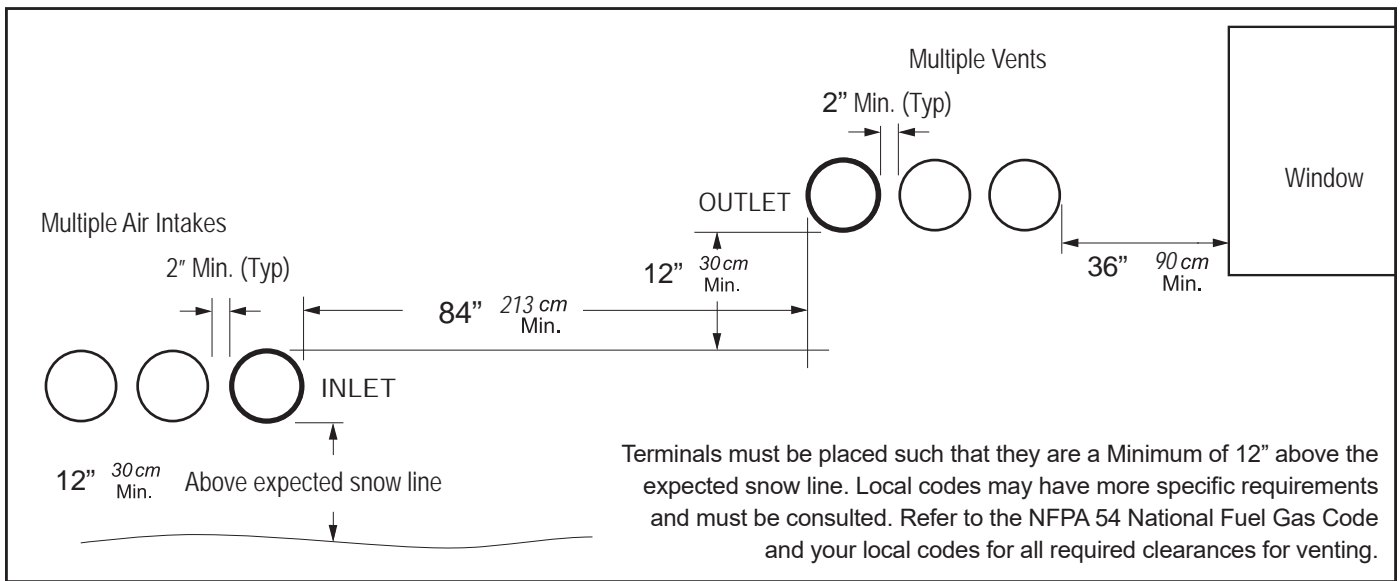

Figure 6. Sidewall Vent and Air Terminals
1. Figure 6 on page 22 shows the requirements for mechanical vent terminal clearances for the U.S. and Canada.
7. If the boiler or water heater uses ducted combustion air from an intake terminal located on the same wall, see See Figure 6 on page 22 for proper spacing and orientation.
4. If the unit is side-wall vented to the same wall, use Figure 6 to determine the proper mounting locations.
5. Multiple vent kits should be installed such that the horizontal distance between outlet group and inlet group is 84" (213 cm). (See Figure 6)
6. The vent outlet must be at least 12" above the top of the air inlet, and must be at least 84" (213 cm) horizontally from the air inlet. (See Figure 6).